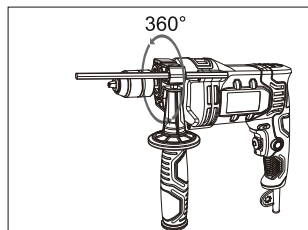

Fig.2
- b.Adjust the position of the handle to suit the application.The auxiliary handle can be swiveled 360°.(See fig.2)